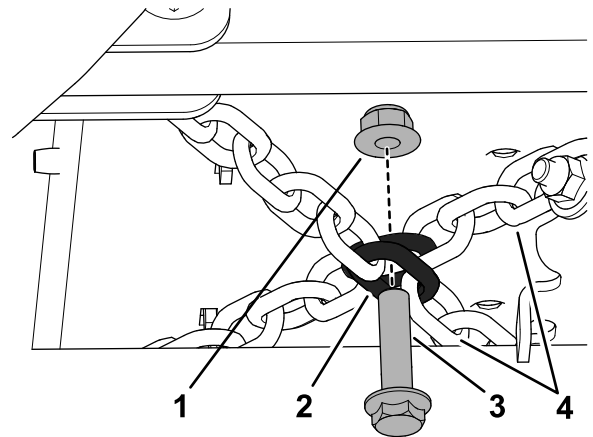

Figure 15
5. Where the chains cross (Figure 15), assemble them with a flange-head bolt (3/8 x 1-1/2 inches) and flange locknut (3/8 inch).